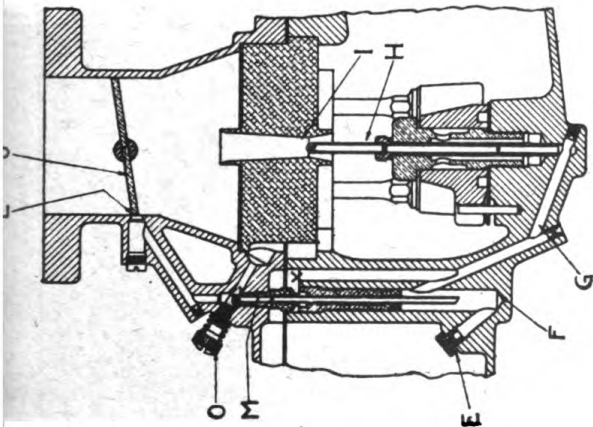

FIGURE 7B
The compensator (E) Fig. 7b, empties into a well (F) which is open to the air at its top (X). Air entering this well breaks suction on the compensator so it flows only by gravity from the head of fuel in the fuel bowl which is kept at a constant height by the float mechanism.
204 - CARBURETOR, IDLING - See Fig. 7b. In this type of Zenith carburetor, slow running is accomplished by a complete idling system that is independent of other adjustments.